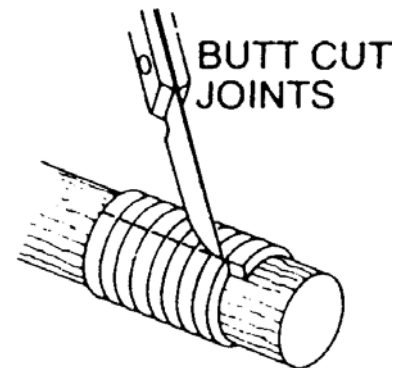

FIGURE 4: Butt-Cut Joints
5. Select the correct size and type of packing (refer to the mixer specification sheet). Using a bar that is the same diameter as the mixer shaft, wrap the packing around the bar once for each ring of packing that is required. We do not recommend cutting the packing on the mixer shaft because it can score the shaft and cause leakage. If butt-cut joints are desired, make one longitudinal cut across all rings (see Figure 4). If diagonally-cut joints are desired, draw two longitudinal lines, spaced equal to the packing thickness. Then, individually cut each ring at a 45-degree angle (see Figure 5).